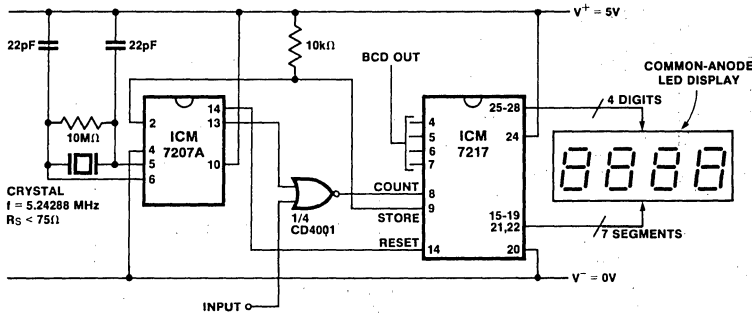

Figure 11: Precision Frequency Counter
6. PRECISION FREQUENCY COUNTER/TACHOMETER (Figure 11)